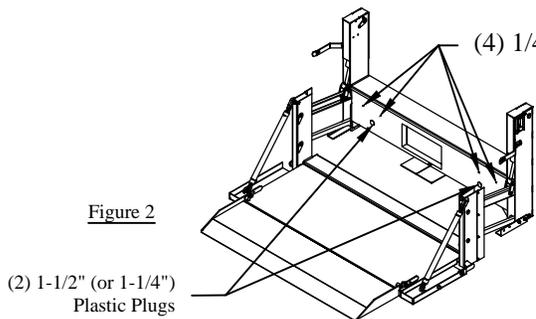

Figure 2
- Step 3. Remove two 1-1/4" (or 1-1/2") and four 1/4" plastic plugs from access holes (Figure 2).
- A. Pull two 2-prong light clips and a 3-prong light clip through each 1-1/2" access hole (Figure 2).